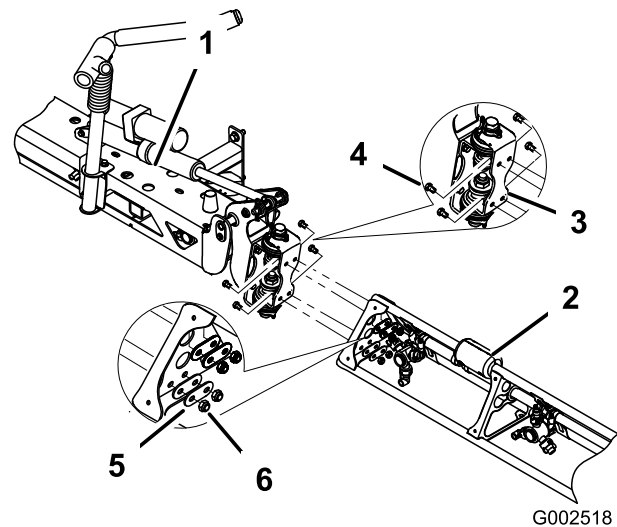

Figure 15
- Install the extension boom to the center boom at the hinge plate using four bolts, four washers and four nuts removed in step 6 as shown in Figure 15.